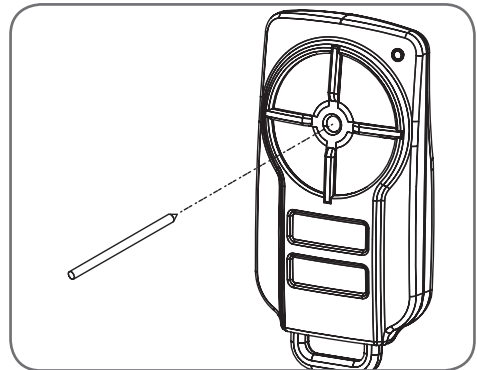

Fig. 8.4
- Using a small needle / pen, press and hold firmly for two seconds the middle button, through the Coding Hole (**Fig. 8.4**).
- Within ten (10) seconds take the additional transmitter you wish to code. Hold the new transmitter's button for two seconds, pause for two seconds, hold again for two seconds and then release.
- Wait for ten (10) seconds and then press the new transmitter's button to test.